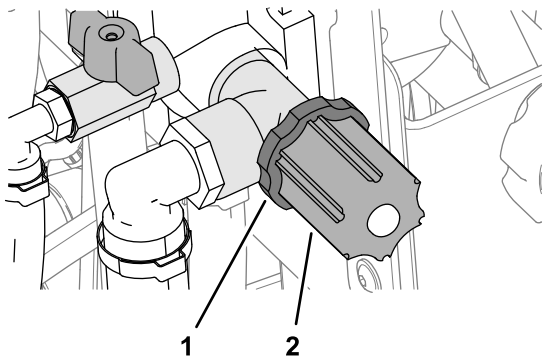

Figure 42
- Turn the knob of the throttle valve clockwise to increase spray-system pressure (Figure 42).
- Turn the knob of the throttle valve counterclockwise to decrease spray-system pressure (Figure 42).
7. Loosen the locknut and turn the knob of the throttle valve counterclockwise (Figure 42).